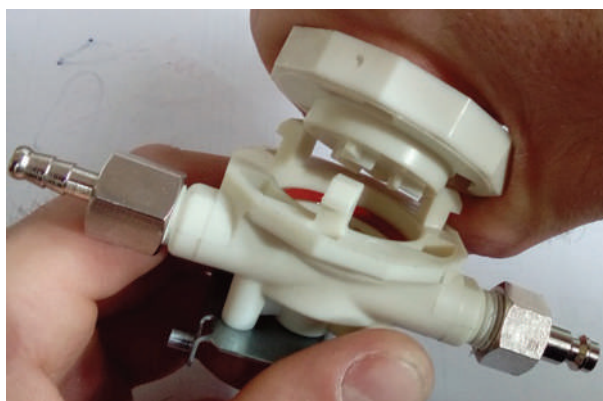
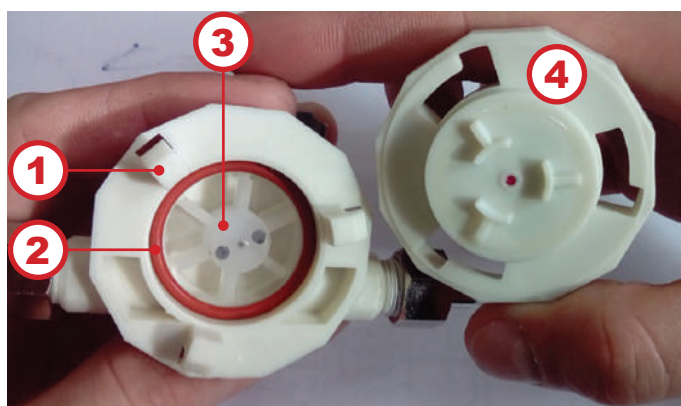

Fig.11.9
Fig.11.10
6. Turn the flow meter cover all the way out and remove it from the case (see fig. 11.9 and fig. 11.10).
7. Clean the flow meter inside parts (see fig. 11.10)